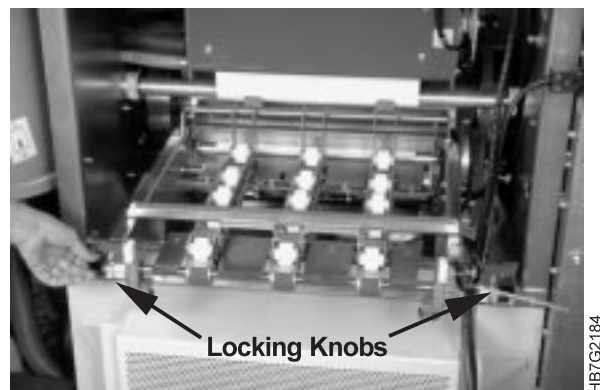

Figure 316. Cooling Unit Black Knobs
- 15 Remove the two black knobs located on the front of the cutter assembly, as shown in Figure 316.